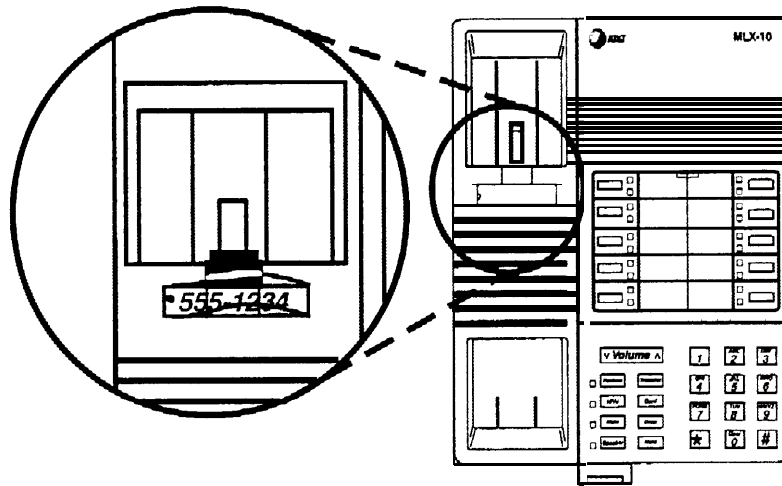

Figure 3–36. Replacing the Extension Label
- c Route the D8W cord (or DIW cable) through the hole in the backplate and have it exit at the top of the backplate; leave 10 in. (25 cm) of cord to connect the telephone. See Figure 3–37.